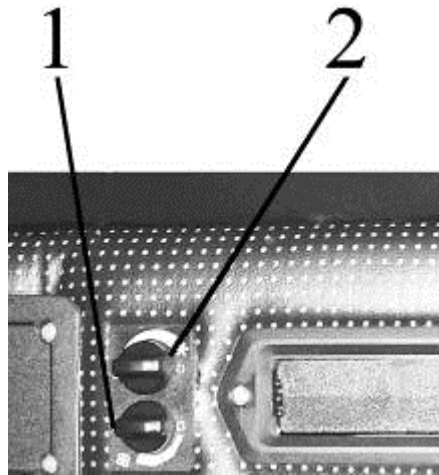

Figure 2.7 – Controls of cab air conditioning and heating system
The climate system control panel is in the center of the upper panel of the cab. The control panel has the switches 1 and 2 (Figure 2.7).
- turn the switch 2 (Figure 2.7) clockwise by 180° to the beginning of the blue scale;
**ATTENTION:** WHEN WORKING IN THE HEATING MODE, THE SWITCH 2 (FIGURE 2.7) MUST BE FULLY OFF TO PREVENT SIMULTANEOUS OPERATION OF THE AIR HEATING AND COOLING SYSTEMS.
The climate system starts operating in the air conditioning mode with the engine running, when the desired fan speed is set with the switch 1 (Figure 2.7), and the switch 2 is set to the beginning of the blue scale.
The air conditioning system can automatically maintain the preset temperature that is set by turning the switch 2 (Figure 2.7) controlling the thermostat. Turning clockwise will decrease the temperature setting, turning counterclockwise will increase it. Protection from critical conditions is ensured by the pressure sensor and the thermostat. The sensor turns off the system when the pressure is too high (over  $2.6 \pm 0.2$  MPa) or too low (below  $0.21 \pm 0.03$  MPa). The thermostat turns off the system when the temperature of the cooling section of the heat exchanger unit drops too low. Performance of the system is adjusted by the fan speed and the thermostat. Hereby the compressor can operate both continuously and cyclically.